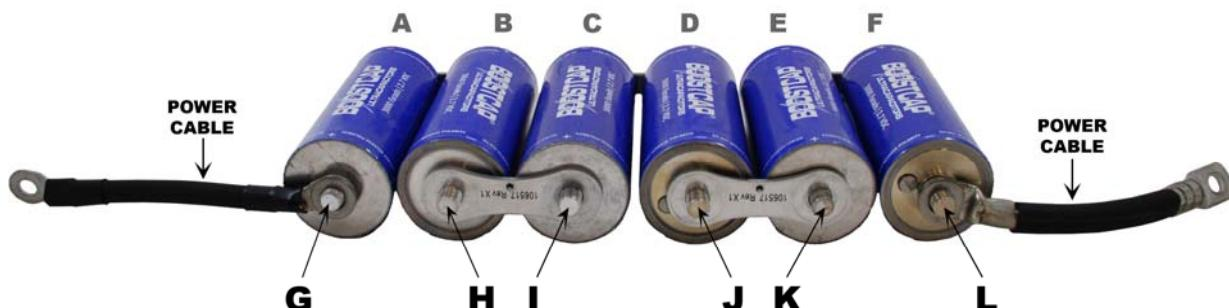

Figure 7
3.2.6 Place $\frac{1}{8}$ inch thick lugs attached to power cables (1/0 AWG cables shown in Figure 7) over the remaining two threaded terminals of the cells at the ends of the series and a washer over each lug. (Figure 7, G and L). It is important to use a lug plus an aluminum washer that together have a minimum combined thickness of $\frac{1}{8}$ inch. This prevents the voltage management boards (which are attached in the following step) from being stressed due to uneven stack up of the elements bolted to the cell.